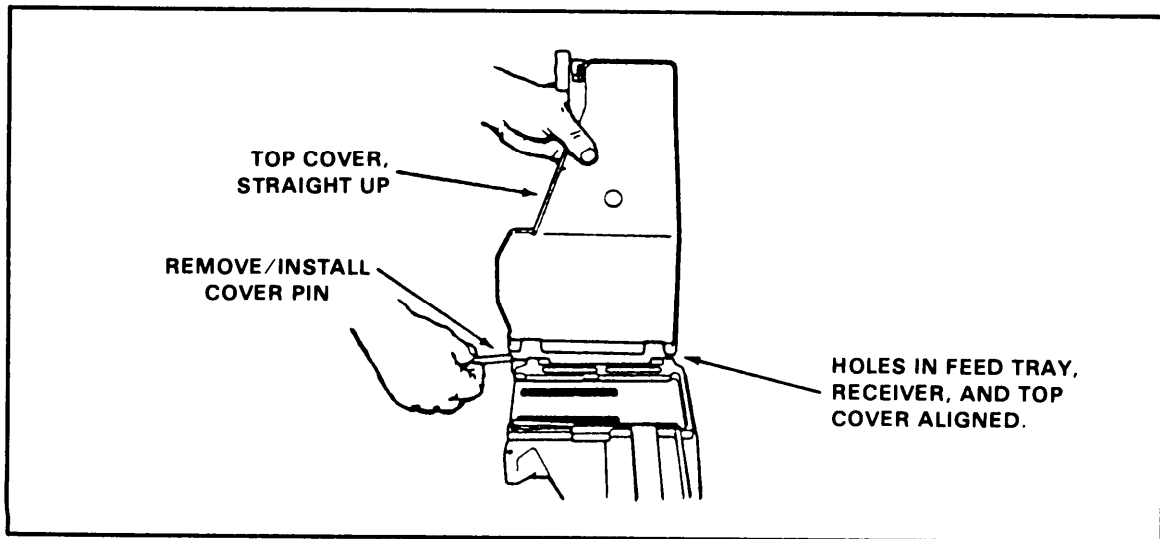

Figure 2-7. Top cover assembly.
(3) Take off the top cover assembly. Hold it straight up with one hand and pull the top cover pins from both sides (Figure 2-7). Lift the top cover assembly straight up and off.